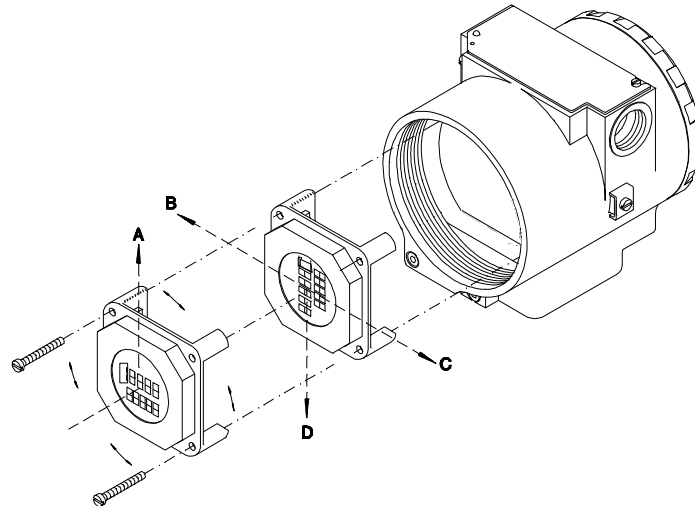

Figure 4.1 - Four Possible Positions of the Display
- Put input board (7) into housing (9).
- Anchor input board with its screws (6).
- Put main board (5) into the housing, ensuring all inter connecting pins are connected.
- Put display (4) into the housing, observing the four mounting positions (See Figure 4.1) " _ " should point in the direction desired as UP.
- Anchors main board and display with their screws (3).
- Fit the cover (1) and lock it using the locking screw (8).